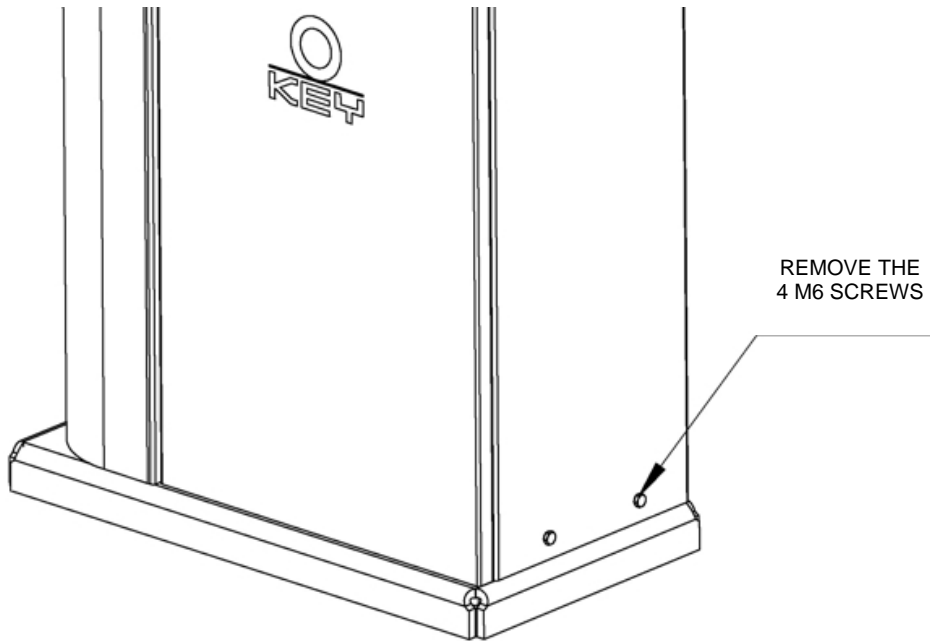

Fig. 5
- Remove the lid unscrewing the screws see (fig. 5).